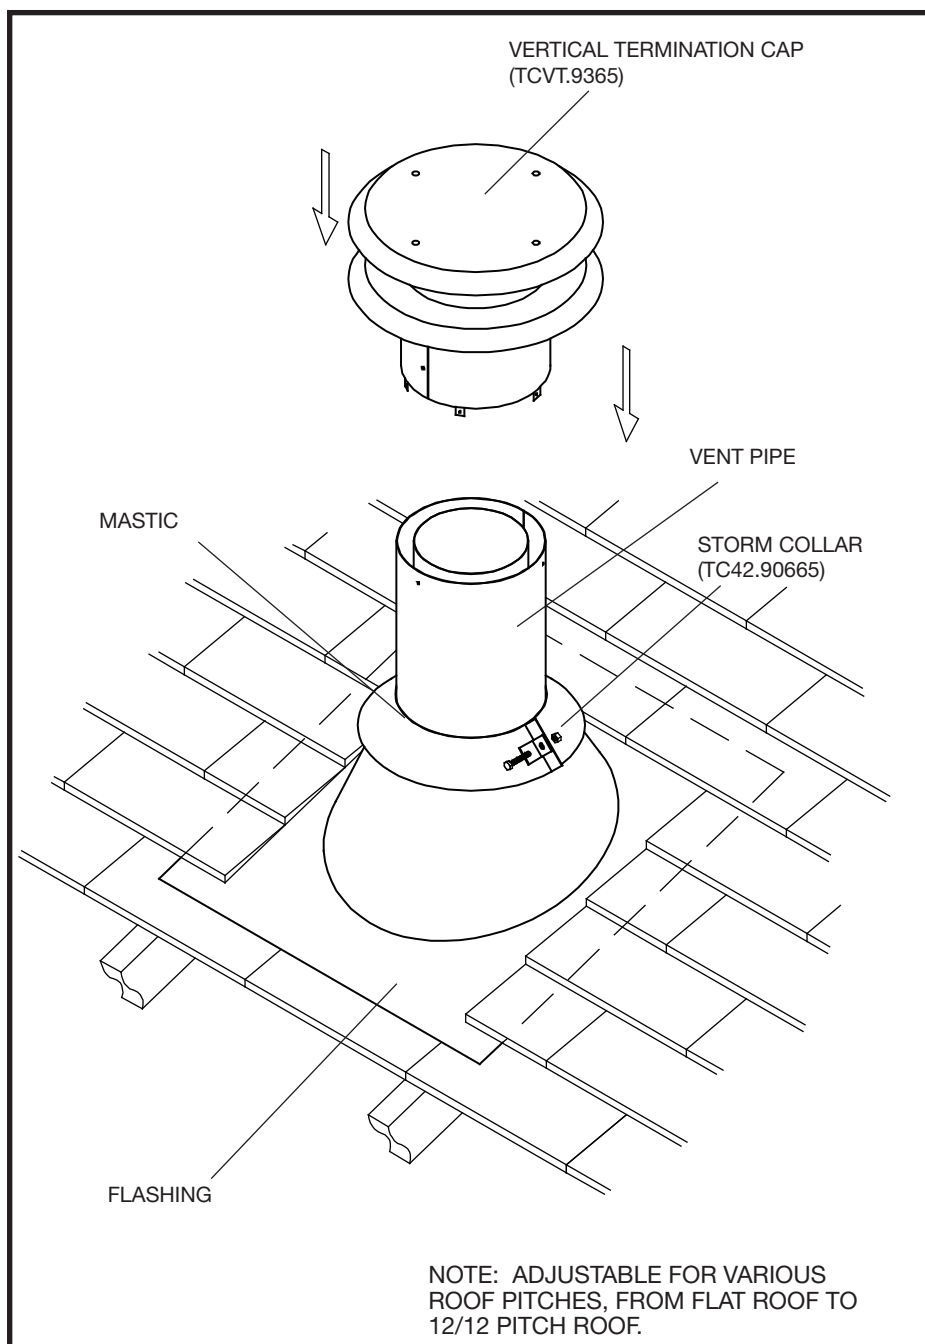

Figure 32: Roof vent terminal.
1. Place the roof flashing over the vent pipe, secure and seal it to the roof using the methods and materials appropriate for the type of roof on the building. Shingle roof example shown (Figure 32).
2. Place the storm collar down over the vent pipe until it is level. Tighten storm collar for a snug fit. Apply a thick horizontal ring of mastic around the pipe at top of the storm collar (Figure 32).
3. Lower the roof vent terminal cap over the vent pipe and secure in place with screws provided (Figure 32). Seal screw heads and joints with caulking to prevent any moisture entering the venting system.